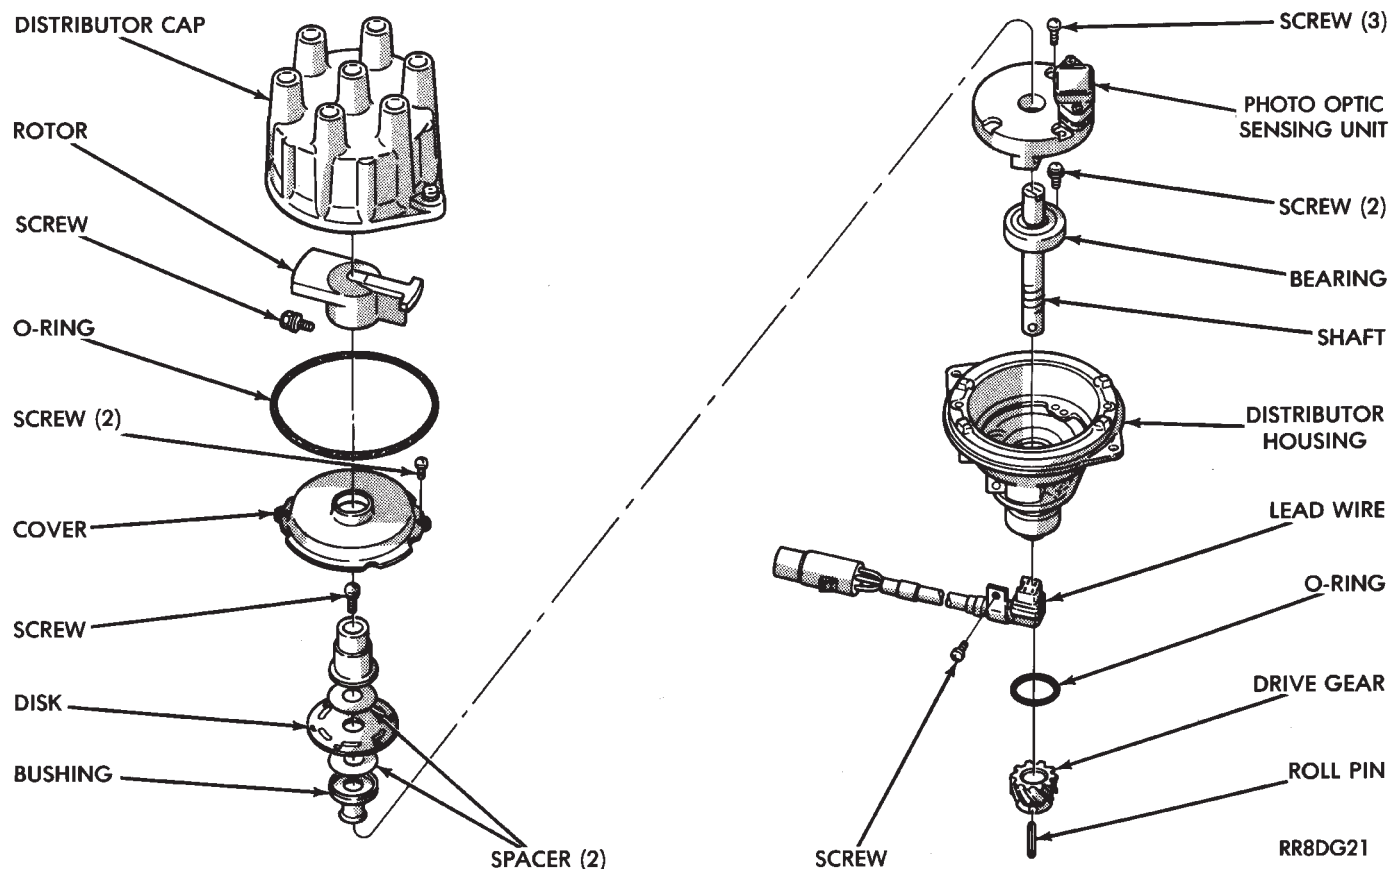

Fig. 37 Distributor—3.0L Engine
- (14) To reassemble, reverse preceding procedure. Refer to Fig. 37.